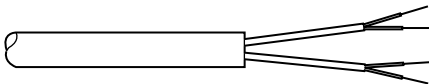

Figure 4-4. Stripping the Insulation on the 2 Twisted Pairs.
3. Strip back the insulation on each of the 2 twisted pair wires about $\frac{1}{4}$ inch as shown in **Figure 4-4**.